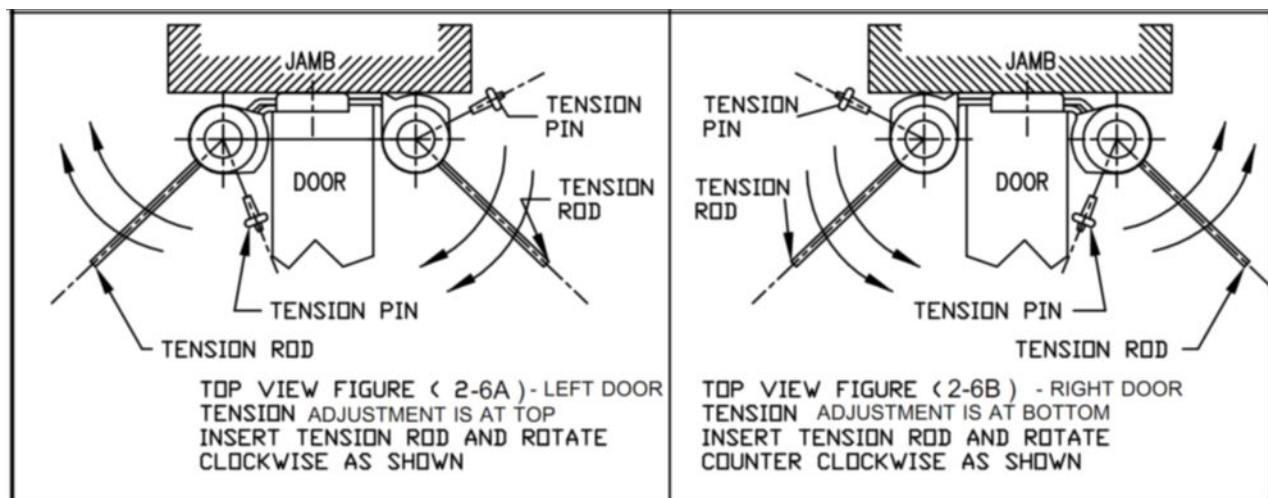

Figure 2-6. Setting the Door Hinge Tension.
3. Using the tension rod or drill bit, rotate the hinge in the direction of the arrow as shown in Figure. 2-6. When you get the desired tension, re-insert the tension pin and remove the tension rod or drill bit.
4. Repeat the procedure on all eight (8) adjustment points (four per door).